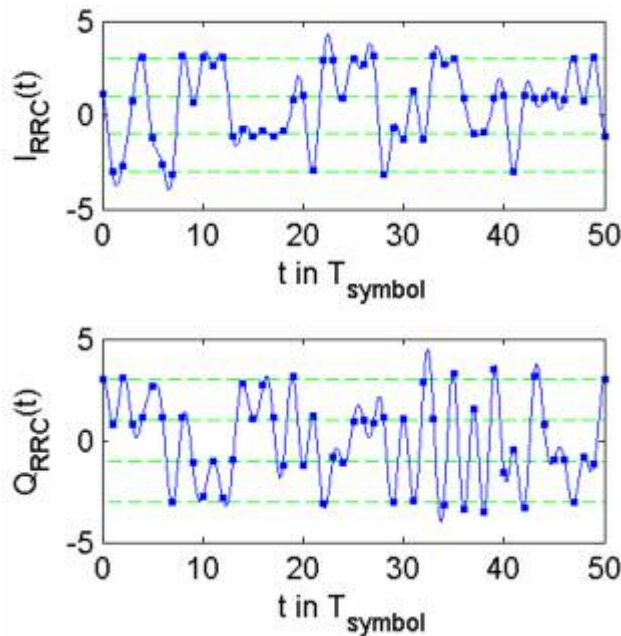

Fig. 2–41 Root raised cosine filtered dirac signals $I_{RRC}(t)$ and $Q_{RRC}(t)$
We notice that the symbol instants (highlighted with squares) are not on the horizontal lines (possible symbols levels) anymore. This is due to the inter–symbol interference introduced by the root raised cosine TX filter. Contrary to the signal filtered with two root raised cosine filters (TX and RX) the one filtered with a single root raised cosine filter (TX) does not satisfy the condition for zero inter–symbol interference. Fig. 2–42 shows the signal obtained by filtering the dirac signals with two root raised cosine filters. The convolution of two root raised cosine filters is also called raised cosine filter. We observe that all symbol instants (highlighted with squares) of $I_{RC}(t)$ and $Q_{RC}(t)$ have exactly the same levels as the signals $I_{dirac}(t)$ and $Q_{dirac}(t)$ in Fig. 2–39. Please note, that the signals $I_{RC}(t)$ and $Q_{RC}(t)$ can only be observed in the receiver and only for a undistorted transmission. They have been mentioned here for explanatory reasons.